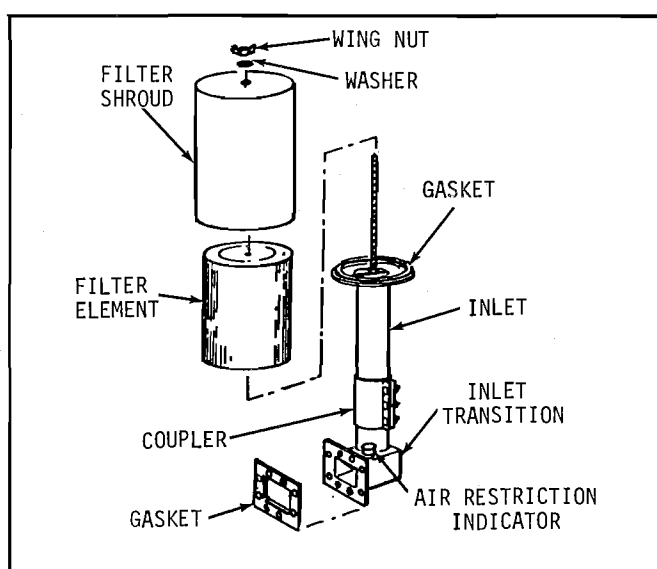

FIG. 18- BLOWER INLET AIR FILTER PARTS
1. Inlet Air Filter (Fig. 18) - Clean, or change; a clogged filter will result in poor performance, overheating, and internal wear of precision made parts.